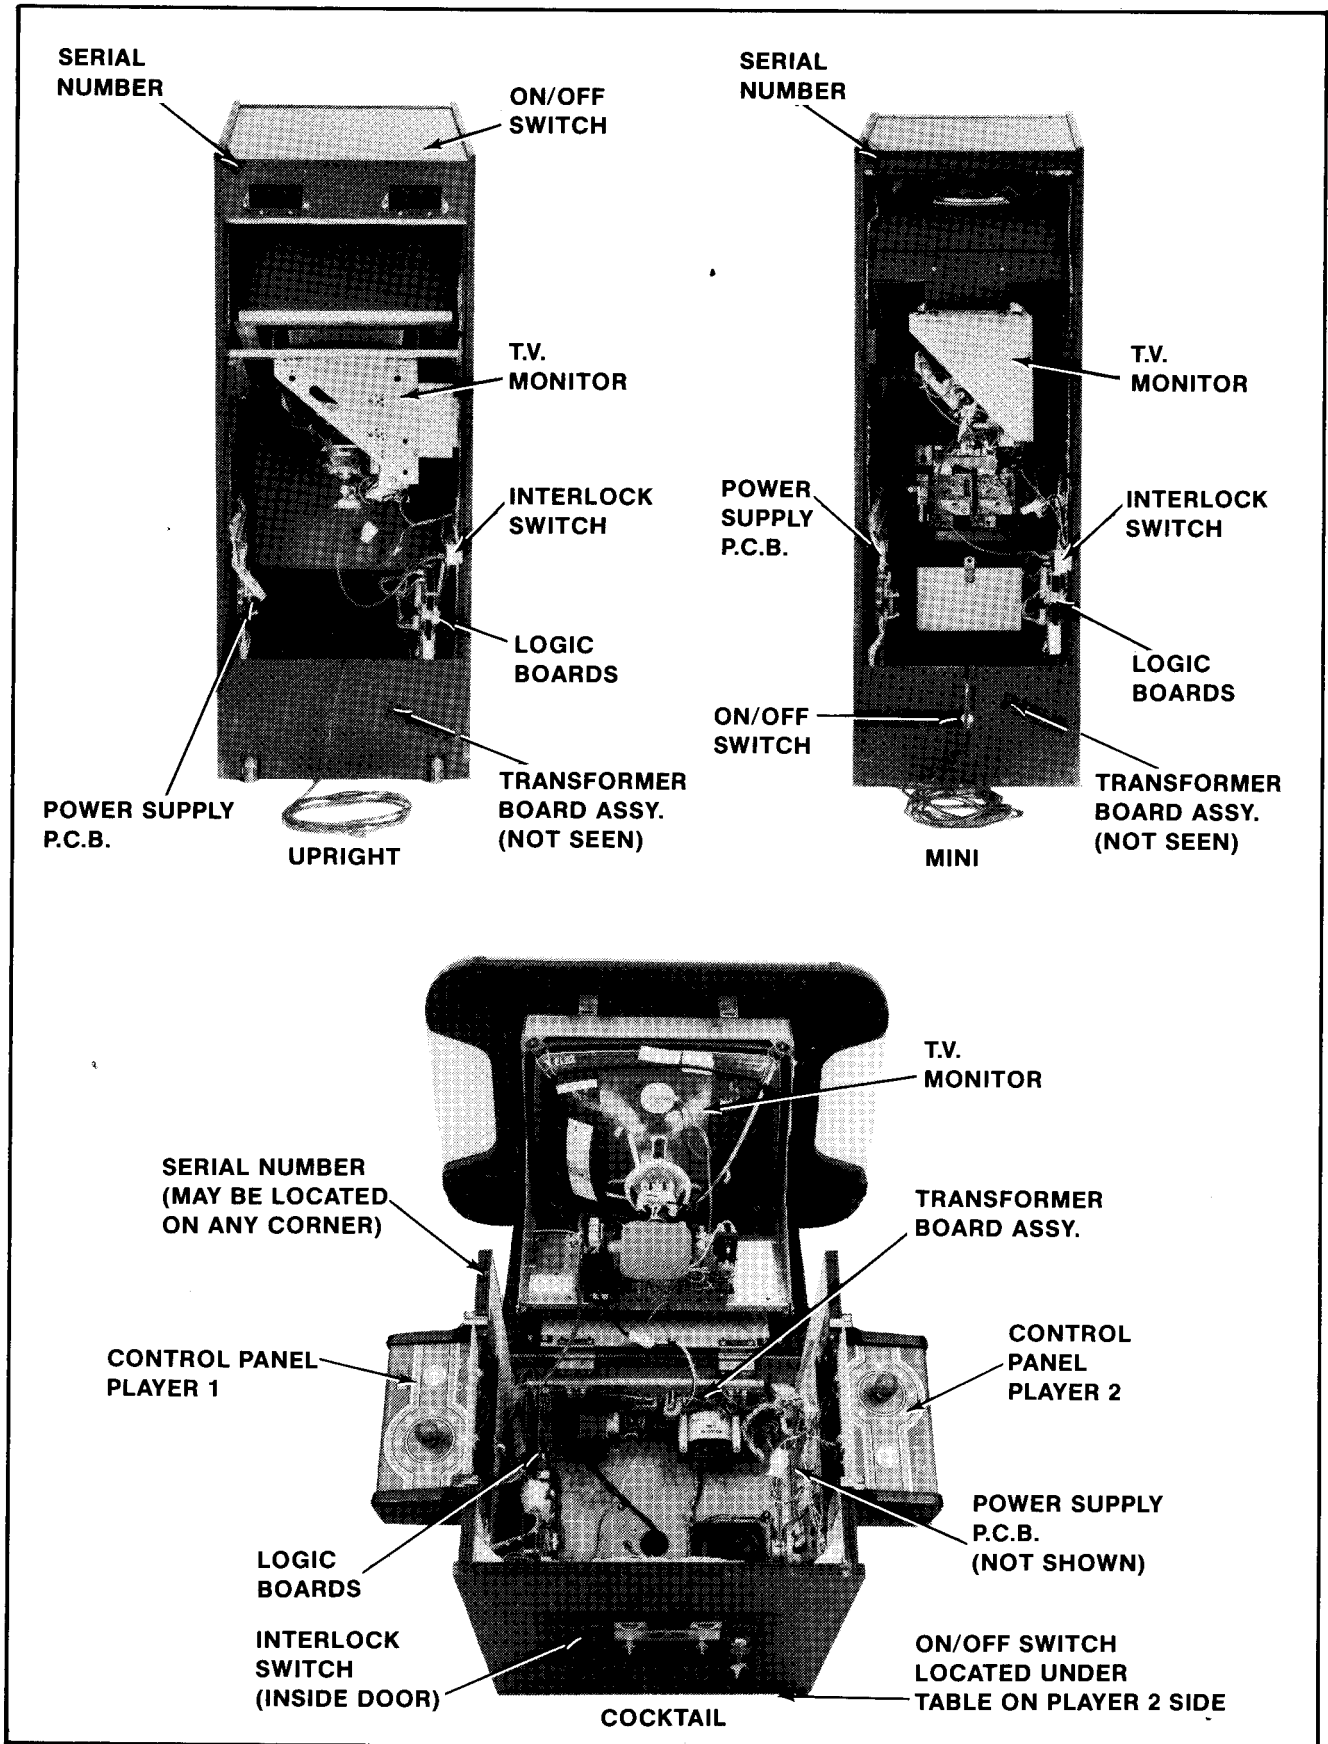

Figure 2-1 Location of Serial No., Interlock Switch, On/Off Switch, & Major Sub-Assemblies
2-2 Major Sub-Assemblies (Cont. from Fig. 2-1)	2-3
5. Open the cabinet and inspect the inside of the game for any signs of damage. See Figure 2-1.
- Note the location of the game's serial number. See Figure 2-1.
- Check all major subassemblies to be sure they are mounted securely. These are called out in Figures 2-1 & 2-2.
3. Interlock and power ON/OFF switches. See Figure 2-1.
The game ON/OFF switches for all models are located as shown in Figure 2-1. Turn the game on and allow it to warm up a few minutes.